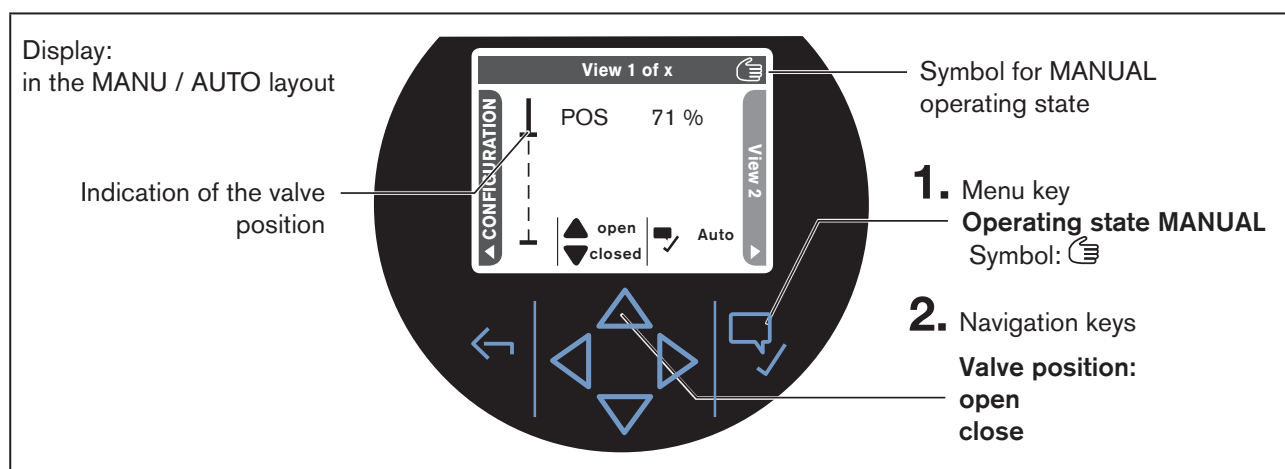

Figure 51: On the display set the operating state and actuate the valve
The navigation keys for actuating the valve are available in the home screen or in a view. Requirements for actuating the valve: (see “Figure 51”):
- The valve position is indicated on the display (see "Figure 51").